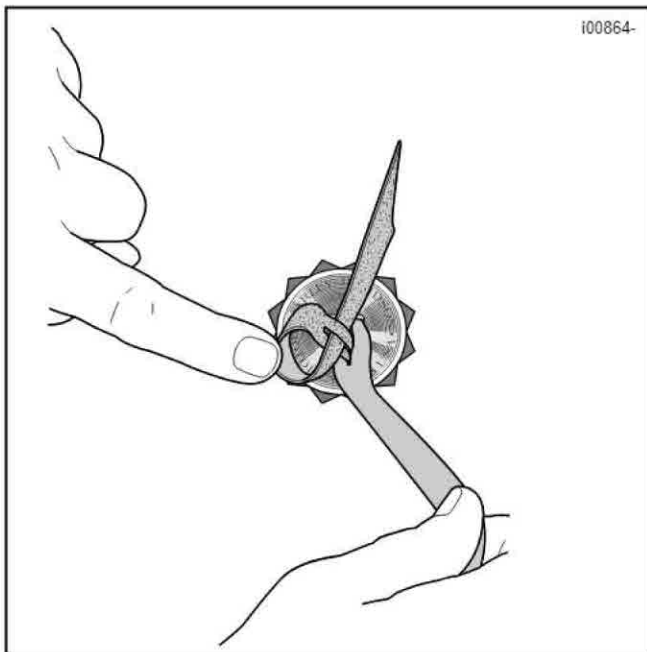

Figure 5. Slip Top Into Its Own Slit
- 3A. See Figure 5. Take the top (rough) side, turn the pointed end downward and slip it into its own slit from the bottom. Finish by pulling the strap toward you. This will twist the sides of the slit. After doing this, proceed to Step 4.